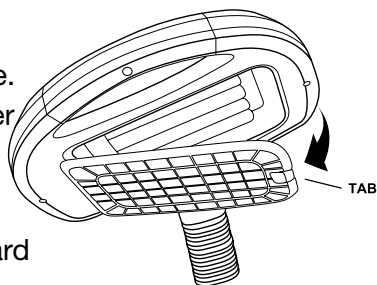

Fig. 7
2. To access the bulb, remove light diffuser by depressing the tab and lifting it out (Fig. 7).